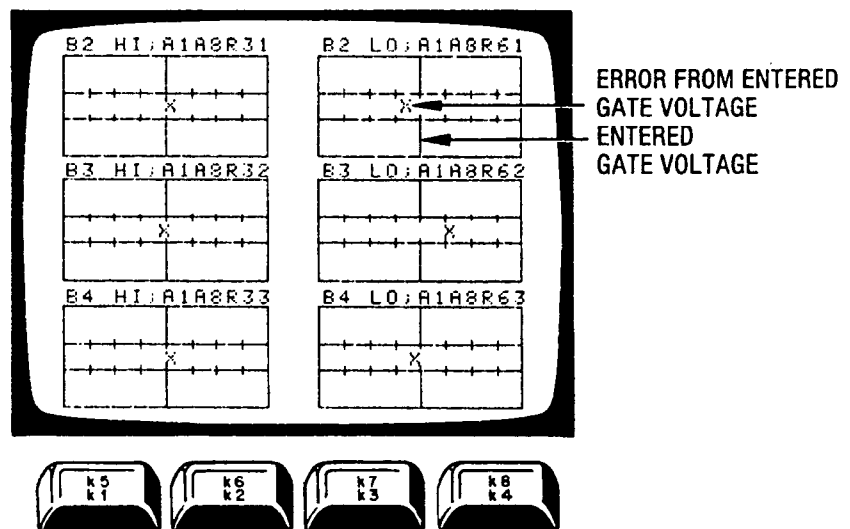

Figure 5-20. Gate Voltage Adjustment
- c. Gate bias voltages are adjusted for bands 2, 3, and band 4. Six rectangles are drawn on the controller screen, each one representing an adjustment. The center of the rectangle represents the entered gate voltage. The flashing "X", which represents the error from the entered gate voltage, is adjusted to within one-half division of the rectangle center. See figure 5-20.